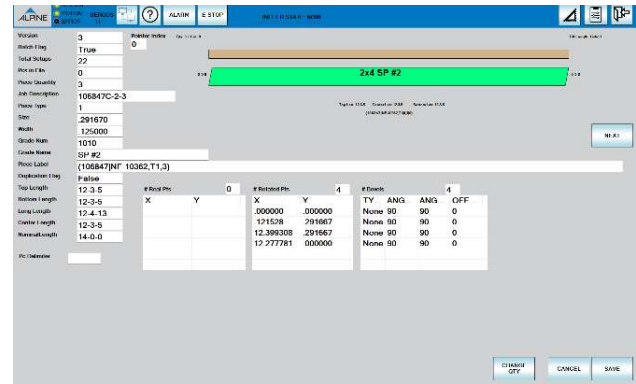

FIGURE 34 TEXT VIEW
(Refer to Figure 34 (1))
(Refer to Figure 34 (2))